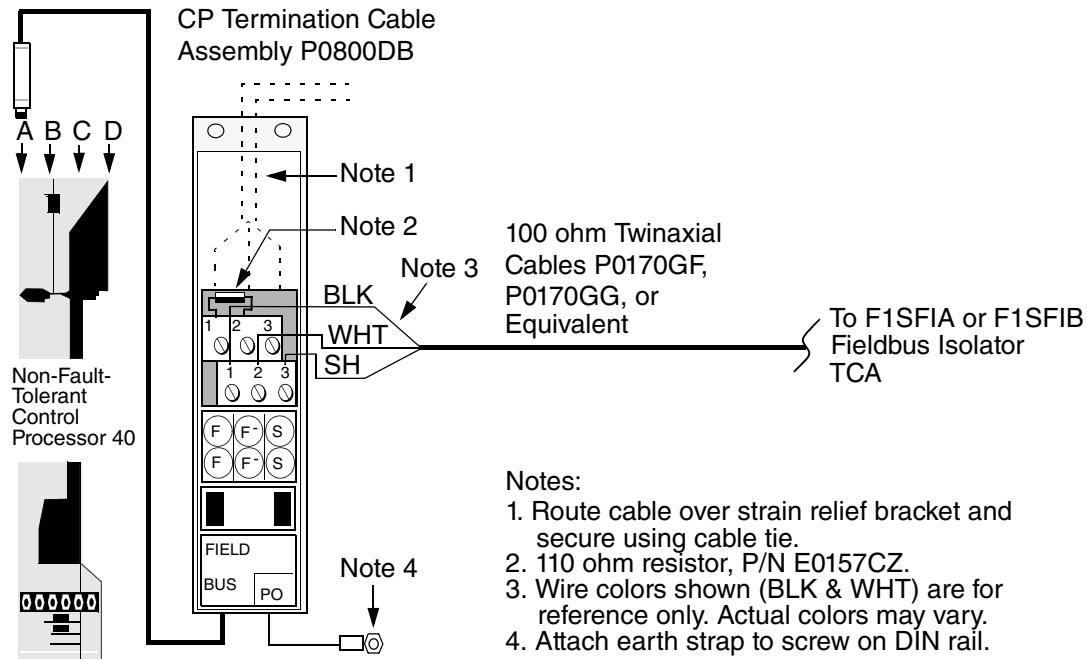
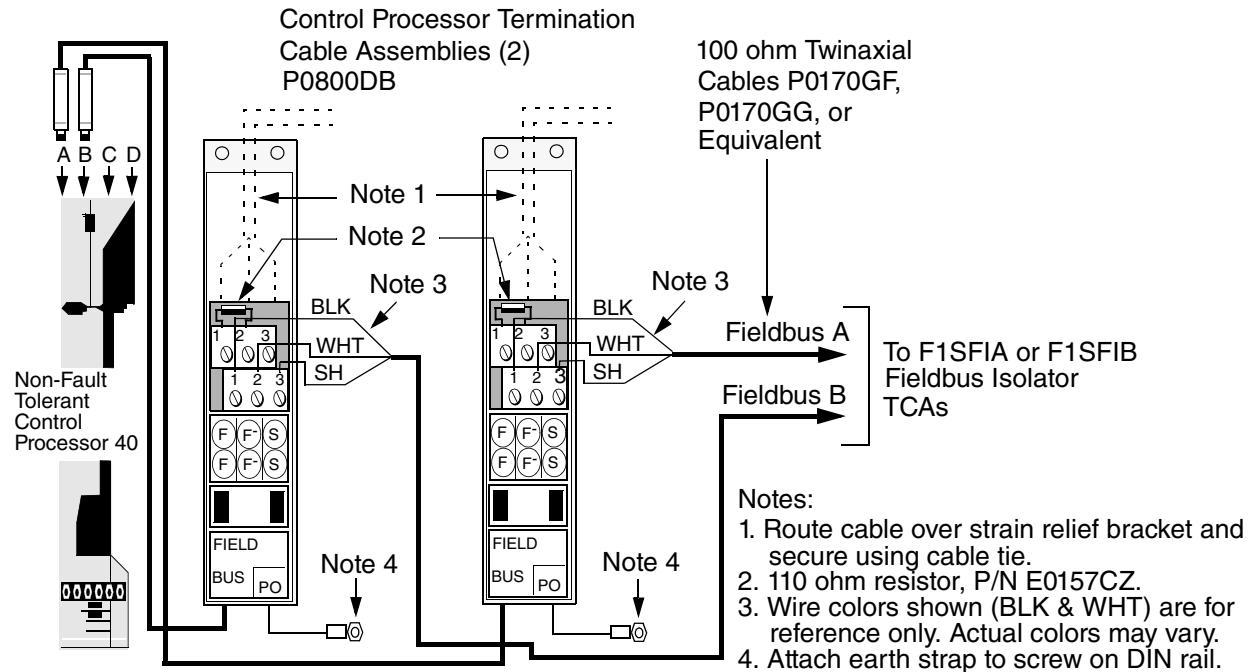
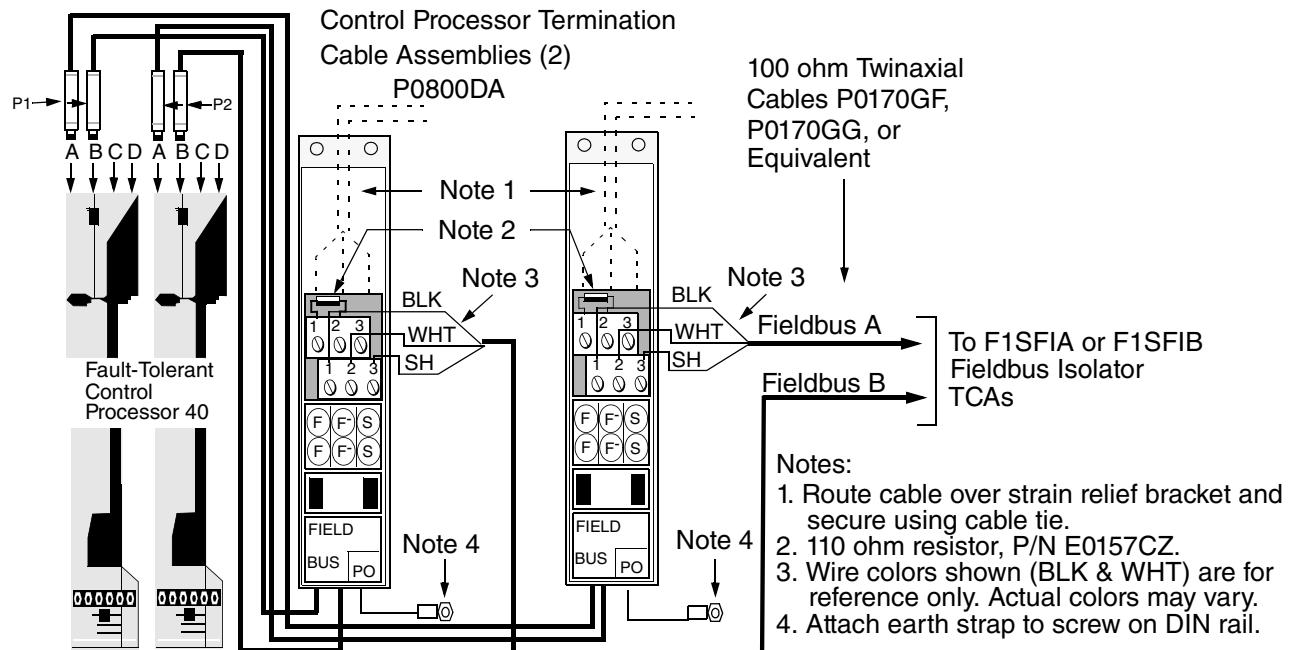

Figure 4-1. Non-Fault-Tolerant CP40 and Non-Redundant Fieldbus, Cable Connections
Figure 4-2. Non-Fault-Tolerant CP40 and Redundant Fieldbus, Cable Connections
Figure 4-3. Fault-Tolerant CP40 and Redundant Fieldbus, Cable Connections
- ◆ Non-fault-tolerant CP40 and non-redundant Fieldbus (Figure 4-1)
- ◆ Non-fault-tolerant CP40 and redundant Fieldbus (Figure 4-2)
- ◆ Fault-tolerant CP40 and redundant Fieldbus (Figure 4-3).
To make the remote Fieldbus cable connections at the Foxboro Evo CP40, refer to Figure 4-1, Figure 4-2, or Figure 4-3, as appropriate for your configuration, and proceed as follows:
3. Connect the Fieldbus cable(s) to the TCA(s) as shown in Figure 4-1, Figure 4-2, or Figure 4-3.
4. If not already in place, add the termination resistor (supplied with each TCA) as shown in Figure 4-1, Figure 4-2, or Figure 4-3.